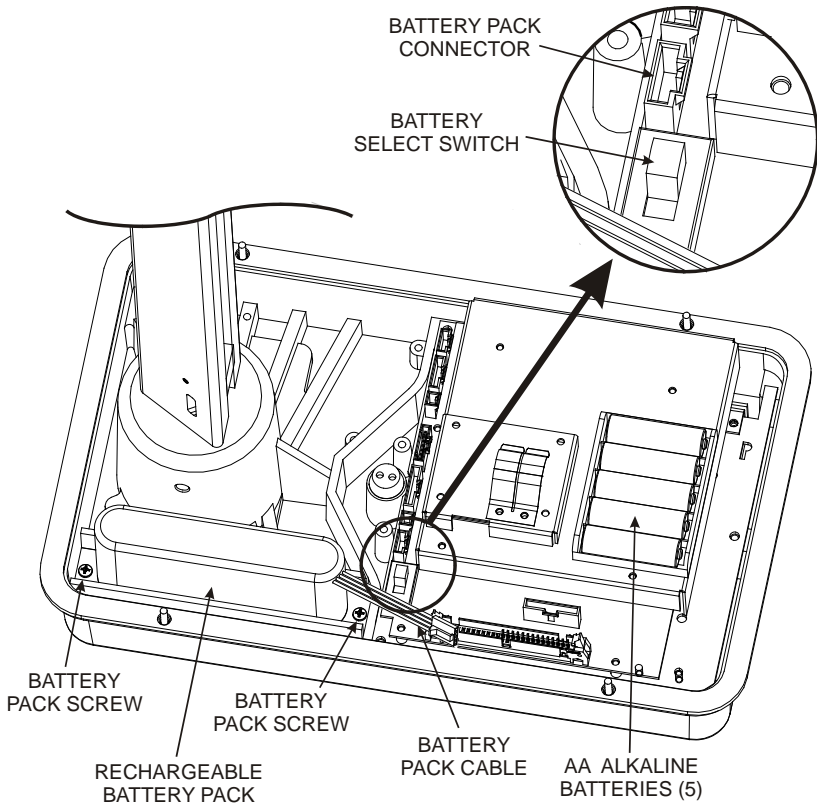

Figure C-2. NiMH Battery Pack and AA Batteries
The gauge is equipped with a rechargeable nickel-metal hydride (NiMH) battery pack containing five C batteries (see Figure C-2). When the NiMH batteries drop below 5.5 V, the gauge shuts off. Troxler recommends that the operator recharge the NiMH batteries, as described on page C-12. The NiMH batteries can be fully recharged in only 3 hours.
- ✓ Unplug the battery cable from the battery connection on the top circuit board (see Figure C-2). Gently squeeze the connector to disconnect.
- ✓ Install five standard AA alkaline batteries into the battery holder (see Figure C-2).